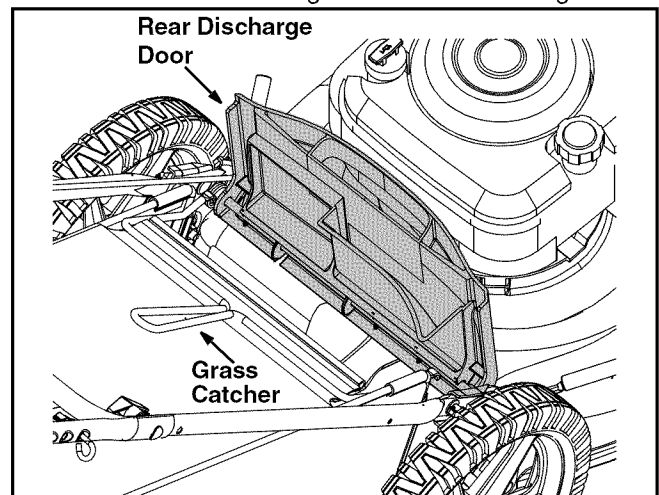

Figure 7
- Lift the rear discharge door and place the grass catcher on the pivot rod. Let go of discharge door so that it rests on the grass catcher. See Figure 7.